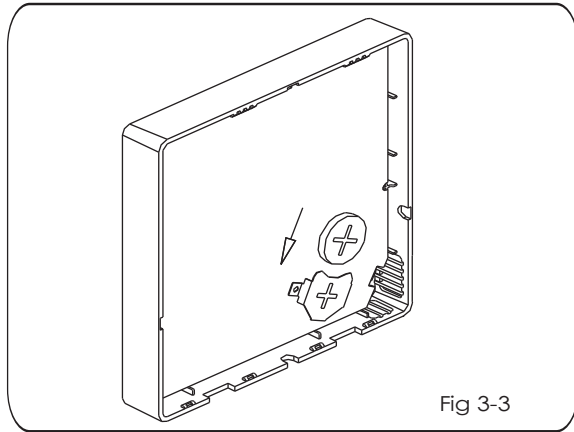

Fig 3-3
4. Install the battery in the rear of the control, make sure the positive side of the battery is correctly aligned on the positive side of the battery connection. (See Fig.3-3)